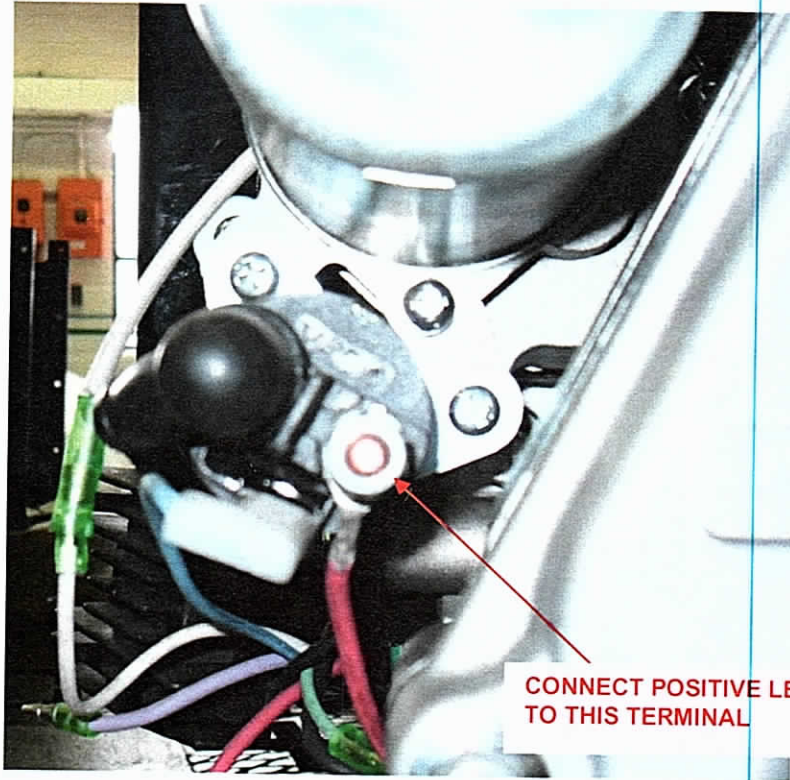
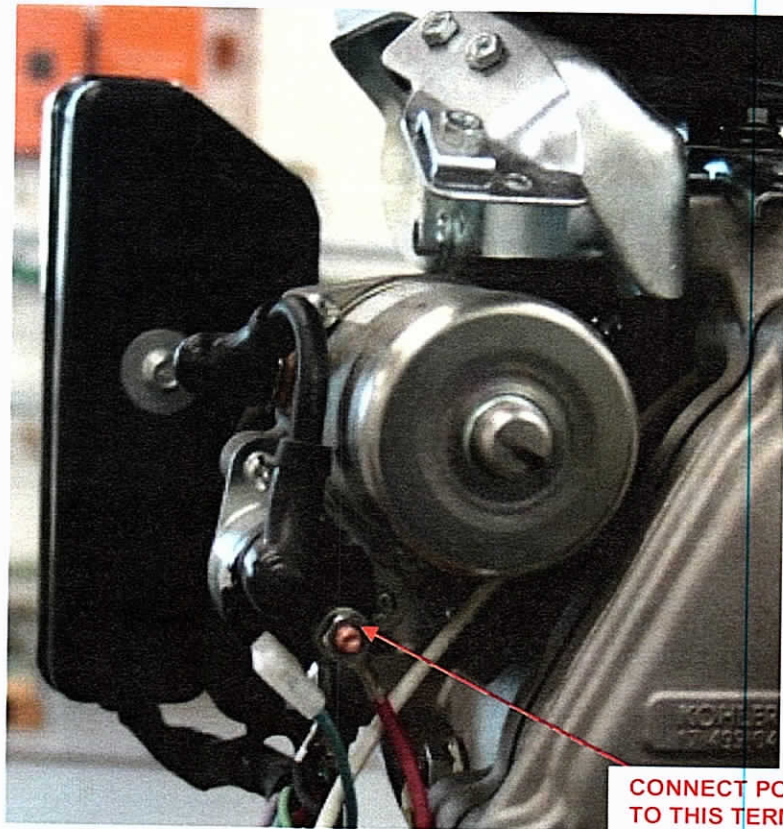

Figure 1
Figure 2
4. The positive lead should be color coded RED and all connections should be enclosed by non-conducting covers. See Figure 1 for Kohler connection. See Figure 2 for Honda connection.
5. The positive lead should be color coded RED and all connections should be enclosed by non-conducting covers. See Figure 2